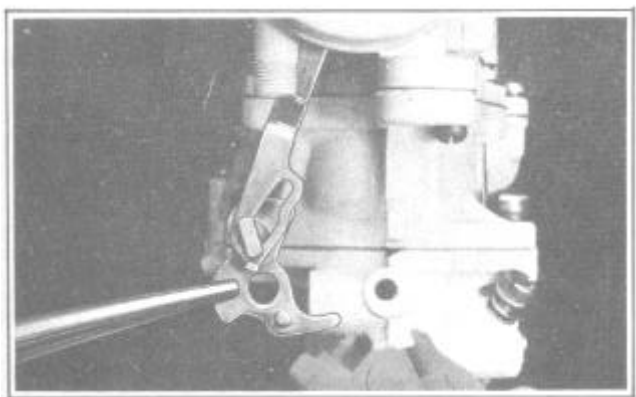

FIGURE 53
29. Install fast idle cam and pin assembly, Figure 53.